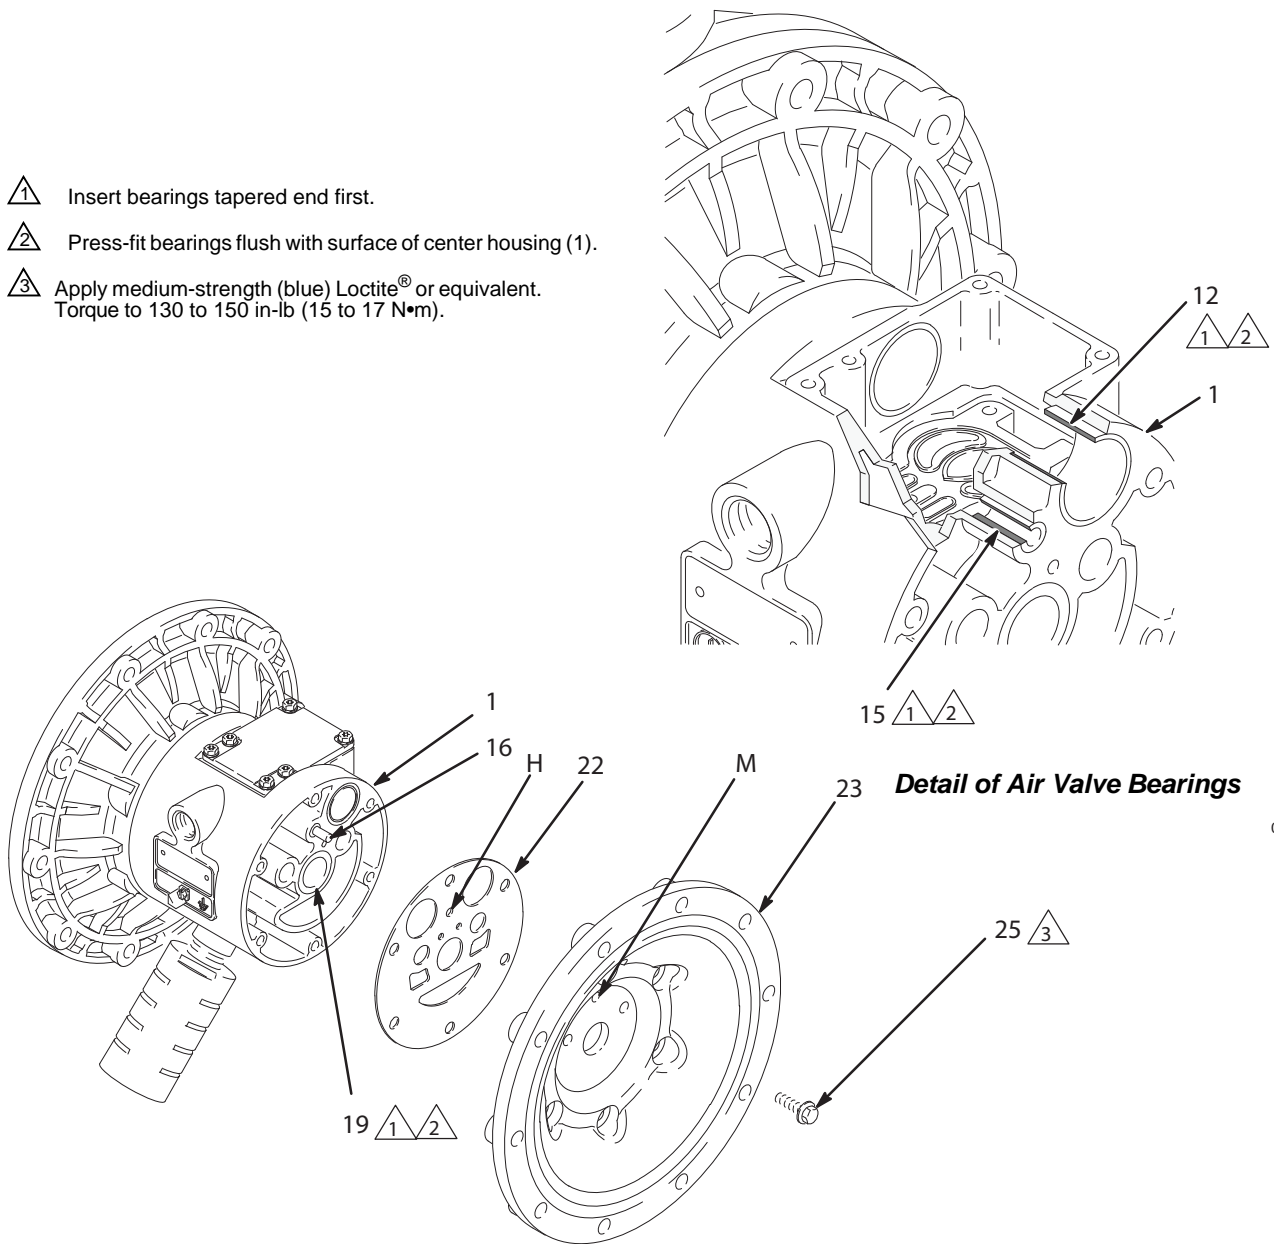

Fig. 14.
5. Using a 10 mm socket wrench, remove the screws holding the air covers (23) to the center housing (1). See Fig. 14.
6. Remove the air cover gaskets (22). Always replace the gaskets with new ones.
7. Use a bearing puller to remove the diaphragm shaft bearings (19), air valve bearings (12) or pilot pin bearings (15). Do not remove undamaged bearings.
1. If removed, install the shaft u-cup packings (402*) so the lips face **out** of the housing (1).
2. The bearings (19, 12, and 15) are tapered and can only be installed one way. Insert the bearings into the center housing (1), **tapered end first**. Using a press or a block and rubber mallet, press-fit the bearing so it is flush with the surface of the center housing.
4. Align the new air cover gasket (22) so the pilot pin (16) protruding from the center housing (1) fits through the proper hole (H) in the gasket.
5. Apply medium-strength (blue) Loctite® or equivalent to the threads of screws (25). Align the air cover (23) so the pilot pin (16) fits in the middle hole (M) of the three small holes near the center of the cover. Install the screws (25), tighten by hand. See Fig. 14. Using a 10 mm socket wrench, torque the screws oppositely and evenly to 130 to 150 in-lb (15 to 17 N•m).